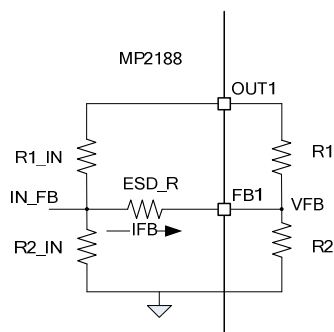

Figure 6 — Feedback network
6. The output voltage of the two channels can be programmed by external FB divider resistors. Figure 6 shows the MP2188 feedback network.